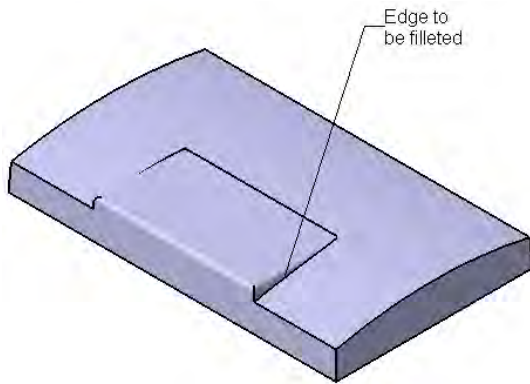

Figure 5-96 Edge to be filleted
5. Select the edge shown in Figure 5-96 and set the value of the **Radius** spinner to **1**.